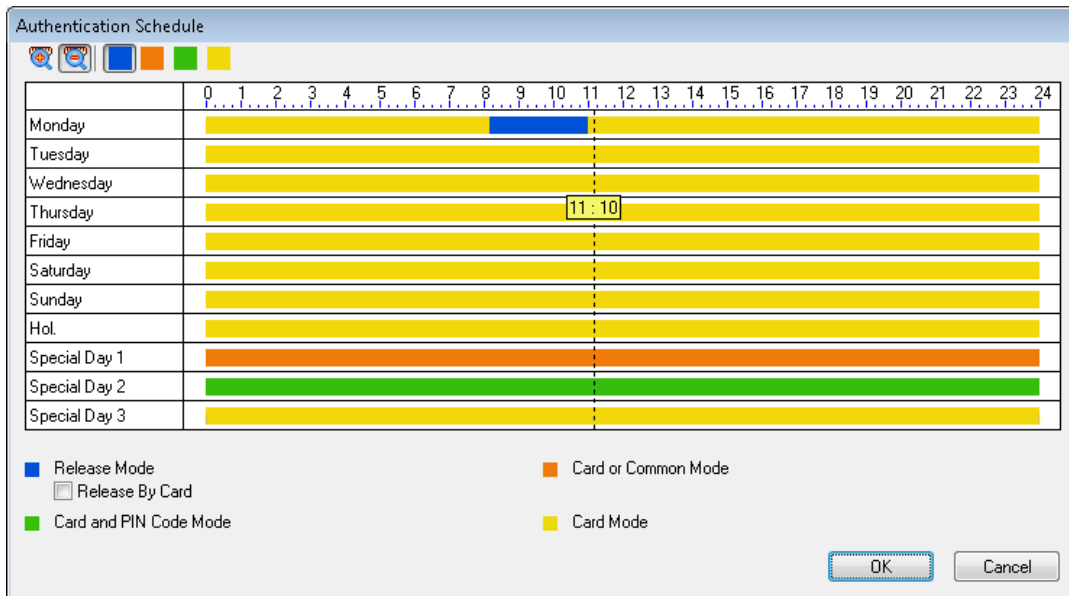

Figure 4-8
- **Common Password:** Set a password for the door. When under **Card or Common Mode**, the user can gain access by entering this password, plus # to enter the setting, using a keypad. The default password is **1234**. See Figure 4-8 for Card or Common Mode.